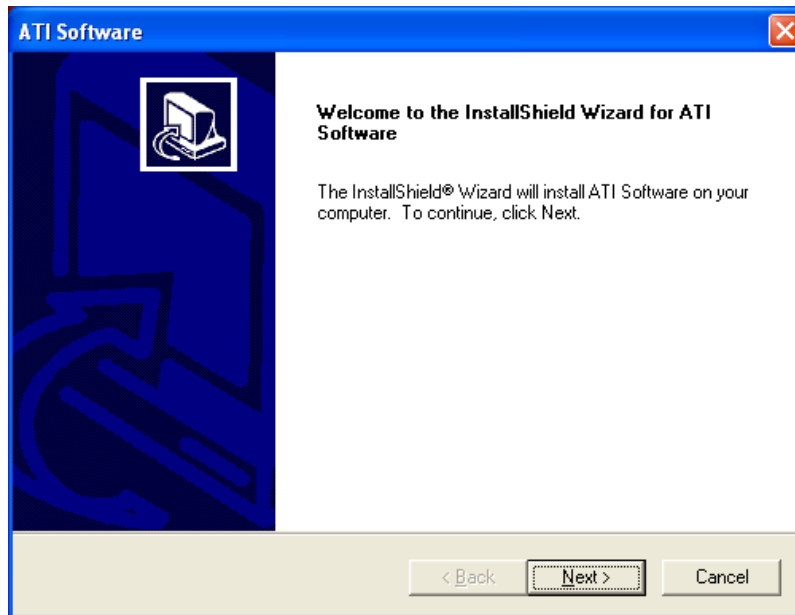

Figure 7-8: Welcome Screen
Step 9: The welcome screen shown in **Figure 7-8** appears.